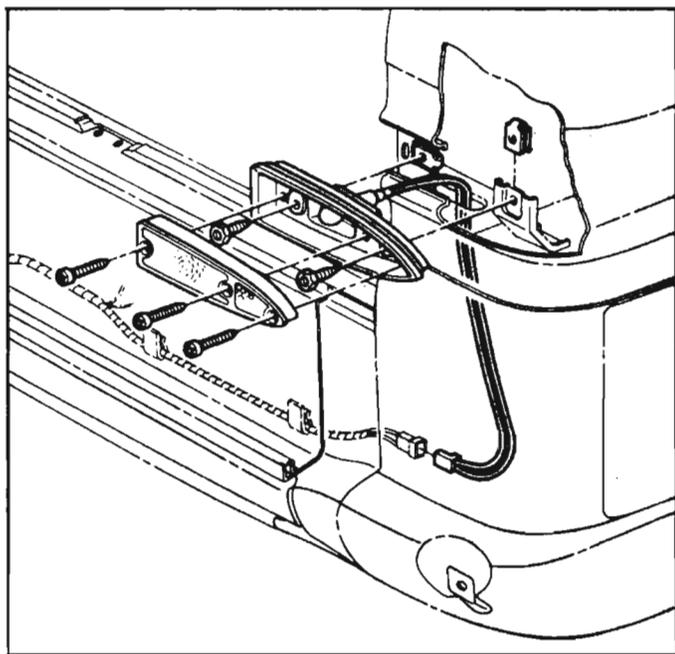

Fig. 8-159—Tail Lamp Assembly
- a. Remove the three phillips head screws securing the lens to the housing. Remove housing (see Figure 8-159).